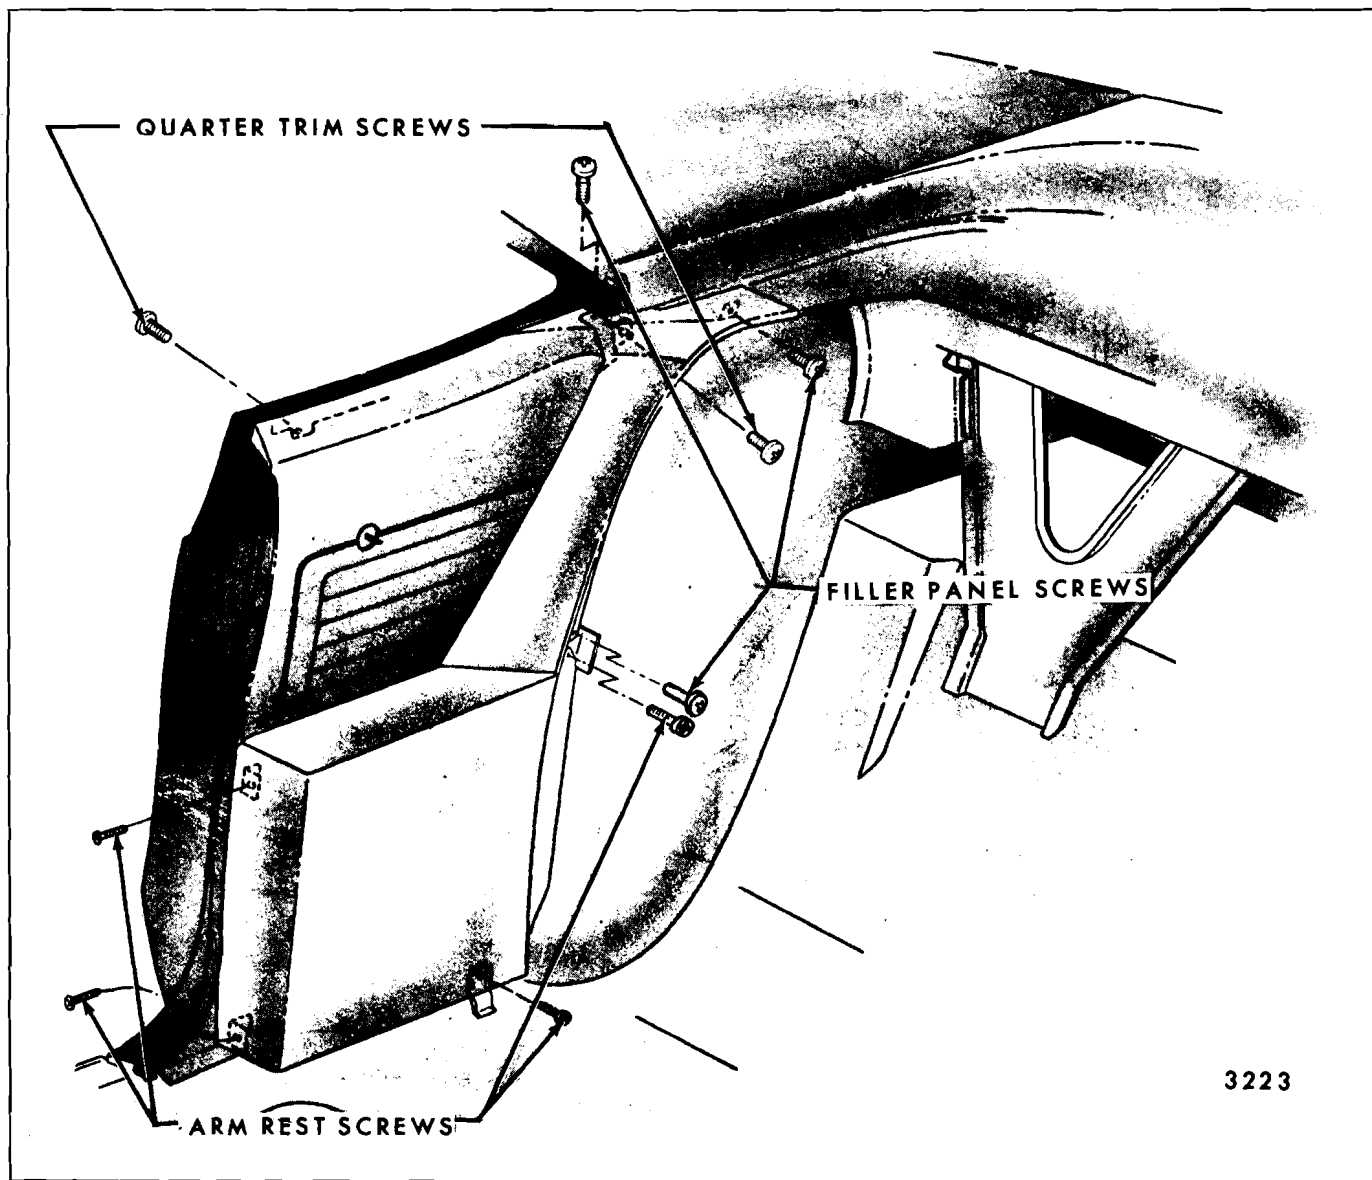

Fig. 14-42—Rear Quarter Trim Assembly - "39487" Style
2. a. On 39487 style, remove seat back filler panel attaching screws (Fig. 14-42).